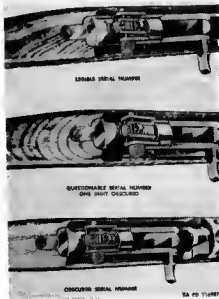
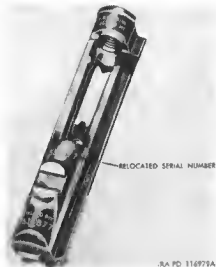

Figure 85. Serial numbers on cal. .30 carbines.
Figure 86. Relocated serial number on cal. .30 carbines.
- (2) Wash chips from reamer and chamber with lard oil after removing from chamber.
- (3) Handle reamer with care to prevent it from being chipped or picked. Never turn reamer backwards in chamber as this tends to dull the cutting edges.
e. *Restoring Serial Numbers (FIELD MAINTENANCE).* Serial numbers which have become obscured because of the installation of the adjustable rear sight must be restored. Since the degree of obscurity varies, this will be effected in one of two ways: (1) if the serial number is questionable (Fig. 85) (one digit obscured), use white graduation filler 52-F-100-230, listed in Department of the Army Supply Catalog ORD 3 SNLK-1, to improve the legibility; and (2) if the serial number is obscured (Fig. 85), it will be relocated on the receiver bridge directly forward of the rear sight platform (Fig. 86).
3. Manually position and space the 3/32-inch stamping fixture on the bridge of the receiver directly forward of the rear sight platform (Fig. 86). Strike the stamping fixture with one firm blow of the hammer to insure a neat and distinct impression. Repeat this procedure until all digits of serial number are transposed.